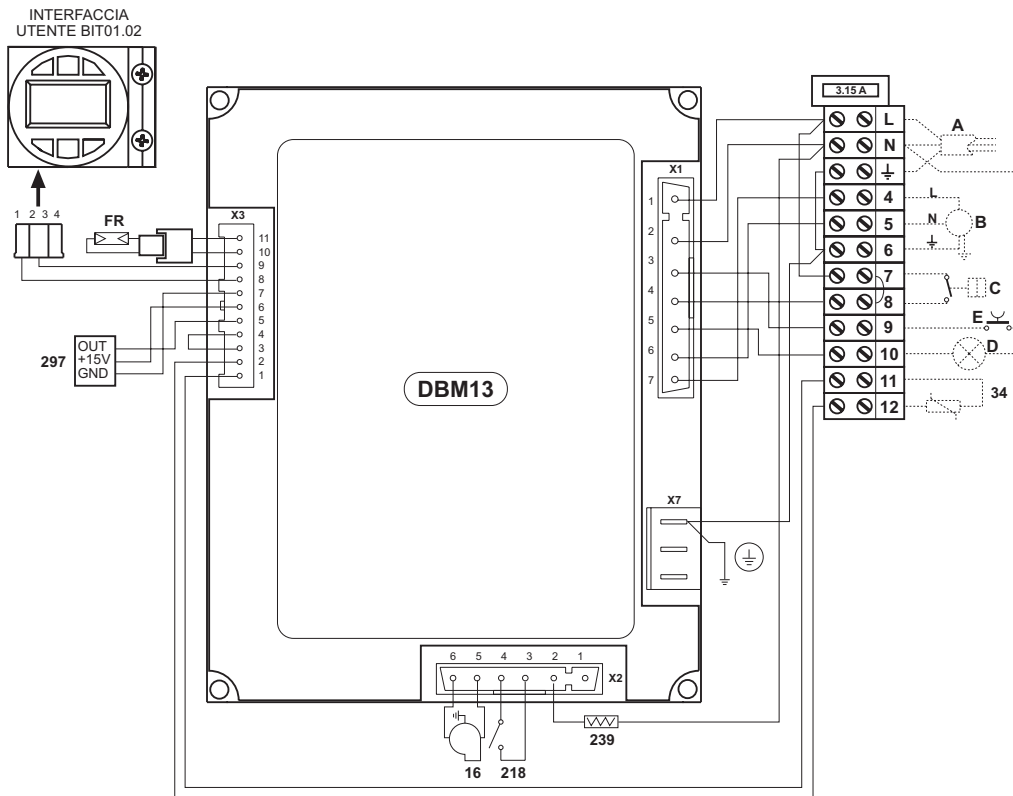
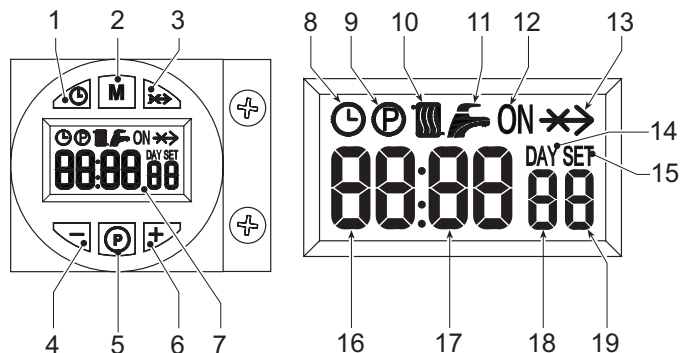

fig. 17 - Schema elettrico con morsetteria 12 poli
fig. 1 - Control panel
The lighting request (generated on closing of the contact on terminals 7-8 (see fig. 17), in default setting conditions) is indicated by activation of the radiator symbol (detail 10 - fig. 1).
1. Press the day/time setting button (detail 1 - fig. 1).
2. The CLOCK and DAY icons flash on the display (detail 7 - fig. 1); set the current day of the week with the + and - buttons (details 4 and 6 - fig. 1), considering that 1=Monday, 7=Sunday. Confirm the day by pressing the day/time setting button (detail 1 - fig. 1).
3. The two digits of the CURRENT HOUR and the CLOCK icon flash on the display (detail 7 - fig. 1); set the exact hour with the + and - buttons (details 4 and 6 - fig. 1), from 00 to 23. Confirm the hour by pressing the day/time setting button (detail 1 - fig. 1).
4. The two digits of the CURRENT MINUTES and the CLOCK icon flash on the display (detail 7 - fig. 1); set the exact minutes with the + and - buttons (details 4 and 6 - fig. 1), from 00 to 59. Confirm the minutes by pressing the day/time setting button (detail 1 - fig. 1). Automatic Heating, Manual On, Manual Off mode
Press the operation mode selection button (detail 2 - fig. 1) to set the:
1. In Automatic mode, the display (detail 7 - fig. 1) shows the CLOCK icon. The burner activation and deactivation request depends on the set weekly programme. In the request time band, the display (detail 7 - fig. 1) also shows the ON icon.
2. In Manual On mode, the display (detail 7 - fig. 1) only shows the ON icon. The burner is always in request status.
3. In Manual Off mode, the display (detail 7 - fig. 1) does not show the ON icon or the CLOCK icon. The burner is off.
The weekly programme is preset with 3 ON time bands and 3 OFF time bands; equal for every day of the week. In the request time band, the display (detail 7 - fig. 1) shows the ON icon.
1. Press the Programming button "P" (detail 5 - fig. 1)
2. Select the day to be programmed with the + and - buttons (details 4 and 6 - fig. 1):
3. Press the Programming button "P" (detail 5 - fig. 1):
- Use the + and - buttons (details 4 and 6 fig. 1) to modify the start of the 1st ON time band; e.g. 06:00 Press the Programming button "P" (detail 5 - fig. 1)
- Use the + and - buttons (details 4 and 6 fig. 1) to modify the start of the 1st OFF time band; e.g. 09:00 Press the Programming button "P" (detail 5 - fig. 1)
- Use the + and - buttons (details 4 and 6 fig. 1) to modify the start of the 2nd ON time band; e.g. 12:30 Press the Programming button "P" (detail 5 - fig. 1)
- Use the + and - buttons (details 4 and 6 fig. 1) to modify the start of the 2nd OFF time band; e.g. 14:00 Press the Programming button "P" (detail 5 - fig. 1)
- Use the + and - buttons (details 4 and 6 fig. 1) to modify the start of the 3rd ON time band; e.g. 16:00 Press the Programming button "P" (detail 5 - fig. 1)
- Use the + and - buttons (details 4 and 6 fig. 1) to modify the start of the 3rd OFF time band; e.g. 23:30 Press the Programming button "P" (detail 5 - fig. 1)
11. Press the Programming button "P" (detail 5 - fig. 1) for 3 seconds to exit the programming mode.
Press the programming button "M" (detail 2 - fig. 1) for 5 seconds to access the parameters menu. Parameter "u01", identified by the message SET 01, is displayed. Press the button "P" (detail 5 - fig. 1) to scroll the list of parameters.
To modify the value of a parameter, press the + and - buttons (details 4 and 6 - fig. 1): the change will be automatically saved. After modifying the parameter, it is necessary to wait 3 seconds: the datum item flashes and is saved.
Press the "operation mode selection - M" button (detail 2 - fig. 1) for 5 seconds to exit the menu.
Press the programming button "P" (detail 5 - fig. 1) for 10 seconds to access the parameters menu. Parameter "t01", identified by the message SET 01, is displayed. Press the button "P" (detail 5 - fig. 1) to scroll the list of parameters.